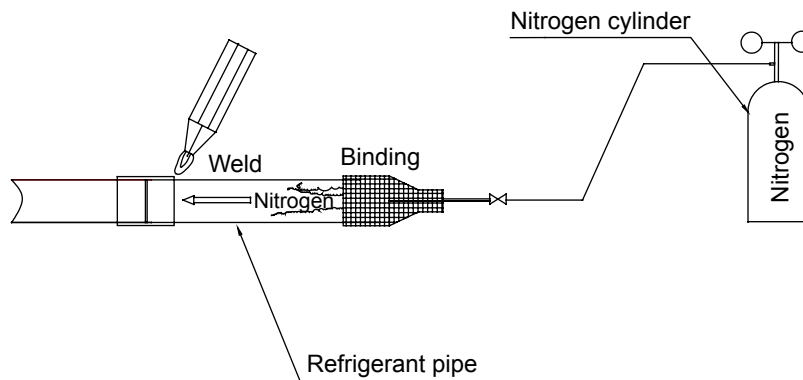

Fig.10
- To weld the refrigerant pipe, please make nitrogen replacement (\*1), or send nitrogen (\*2) into the refrigerant pipe while welding the pipe (refer to Fig.10). Finally use the flare or flange to connect the indoor unit and valve box.